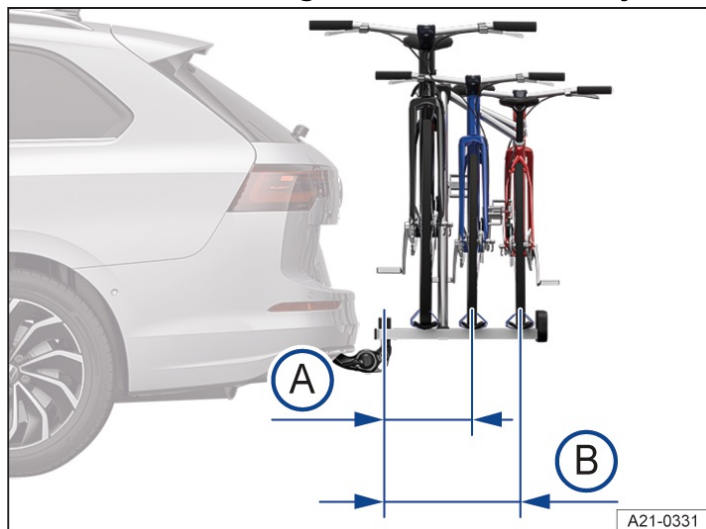

Fig. 2 General example of the maximum overhang on one bicycle rack for two or three bicycles.
- (A) For a carrying load up to 55 kg: 500 mm (approx. 19.7 inches).
- (B) For a carrying load of 75 kg: 700 mm (approx. 27.6 inches).
On bicycle rack systems with two bicycles, the maximum overhang must not exceed 500 mm from the center of the ball mount to the center of the bar on the last bicycle rack → *fig. 2 (A)*. On bicycle rack systems with three bicycles, it must not exceed 700 mm → *fig. 2 (B)*.